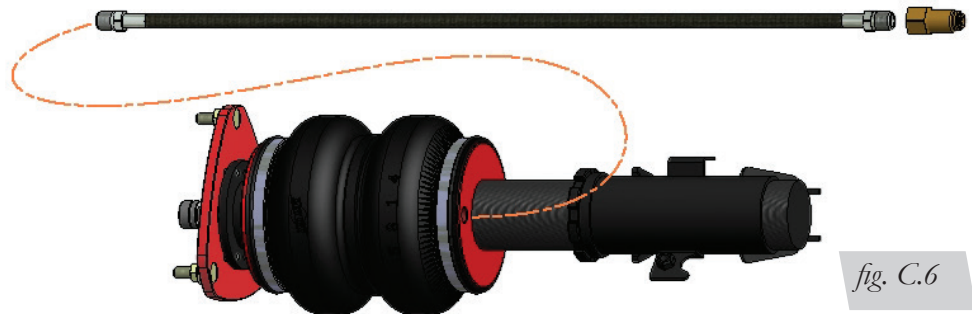

fig. C.6
1. Begin by installing the leader line into the air spring (Fig. C.6). Wrap the threads of the leader hose with Teflon tape or thread sealant. Tighten the appropriate fitting to the airline 1 and 3/4 turns beyond hand tight. Tighten the leader line into the air spring 1 and 3/4 turns beyond hand tight.